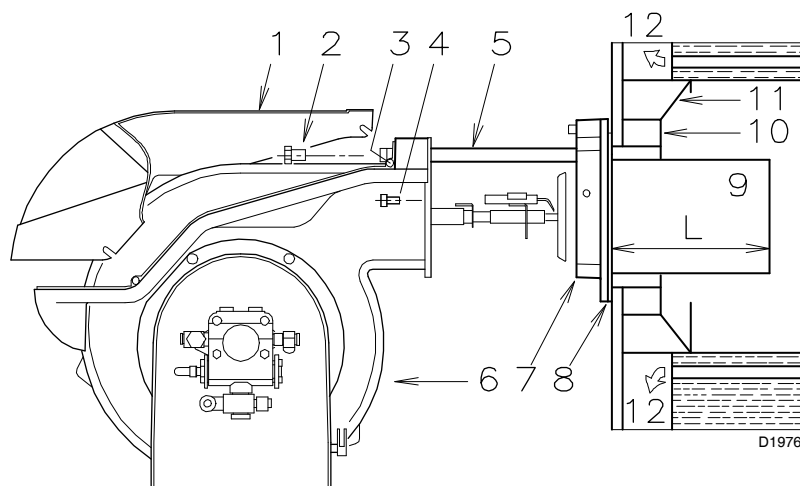

Fig. 8
For boilers having a water-cooled front the refractory fettling 10)-11) (Fig. 8) is not required unless it is expressly requested by the boiler manufacturer.
Secure flange 7) (Fig. 8) to the boiler plate interposing the supplied gasket 8) (Fig. 8). Use the 4 screws provided after having protected the thread with antiscrudding products.
- Retract the burner on its slide bars as shown in (Fig. 8, page 12).